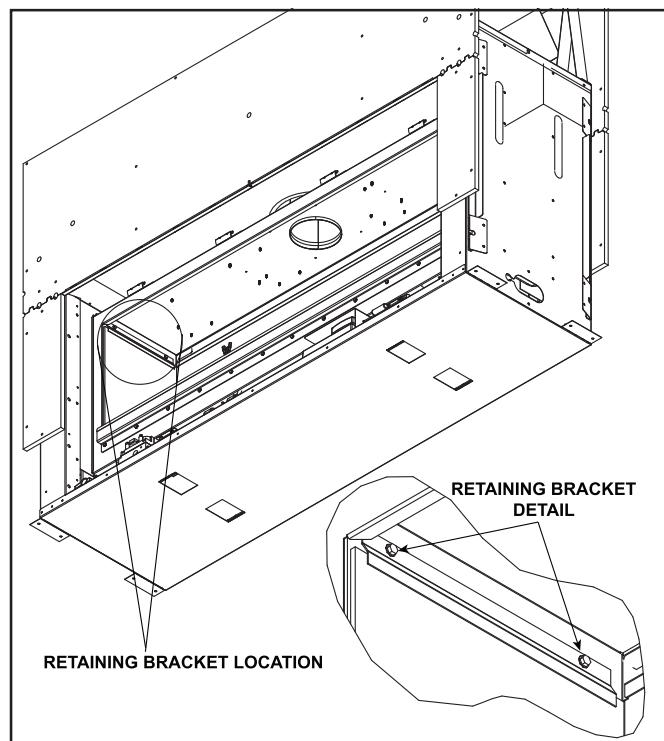

Figure 11.7. Retaining Bracket Installation - See-Through Models
- e. Bend the tab on the glass bracket toward the side glass panel until a 1/16 inch - 1/8 inch gap is created between the tab and the side glass panel. See Figure 11.7.
- b. Place retaining bracket over glass panel so holes in the bracket are against the firebox side. Use two self-drilling screws to secure the bracket to the firebox side. See Figure 11.7.